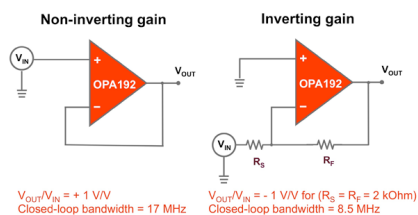

Figure 1 The simple non-inverting and inverting gain configurations
The definition of noise gain (GN) is the gain of a non-inverting amplifier circuit. With that definition, the GN of the non-inverting circuit is +1 V/V, and the GN of the inverting gain circuit is +2 V/V. Figure 2 shows the open loop gain of the amplifier in Figure 1.